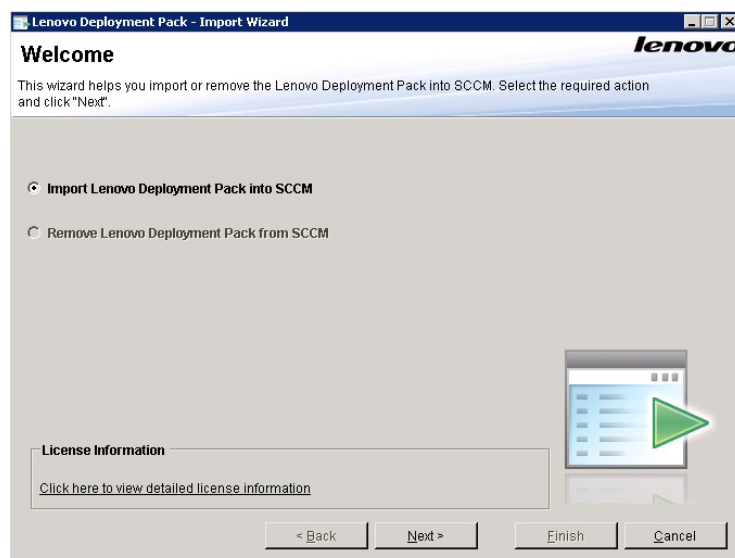

Figure 2. Lenovo Deployment Pack Import Wizard Welcome page
- If the product license is purchased and installed, or the product is in a trial stage, you can add new machine types by selecting **Add new machines** on the Target System page, as shown in Figure 2. Click **Next**. The Additional SEP Packages page is displayed.